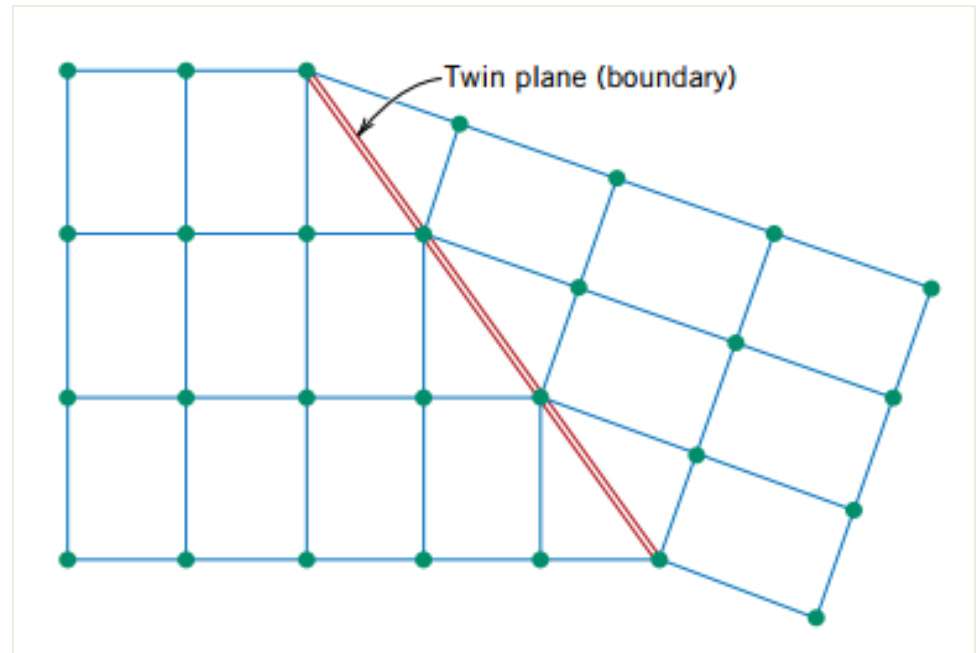

Figure 4.10: A twin plane or boundary and the adjacent atom positions (colored circles).
- **Atoms** on one side of the boundary are located in mirror-image positions to those of the atoms on the other side. (Figure 4.10)